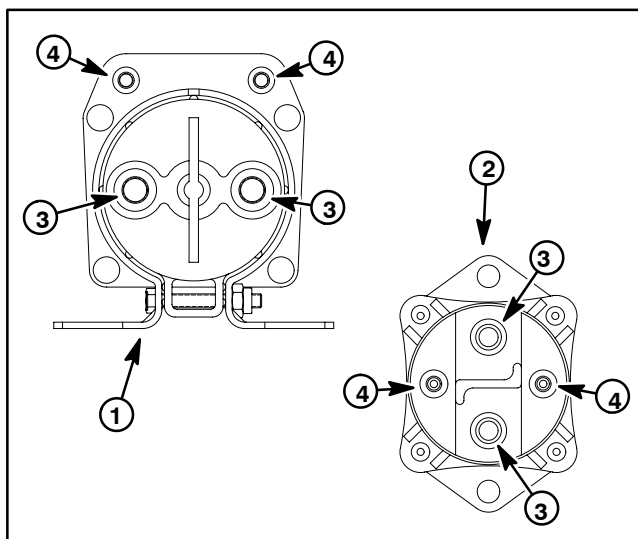

Figure 33
3. Using jumper wires, apply 48 VDC directly across the contactor coil posts (Fig. 33). The contactor should click. With the contactor coil energized, resistance across the main contact posts should be less than **1 ohm**.
5. Measure resistance across the contactor coil posts (Fig. 33):